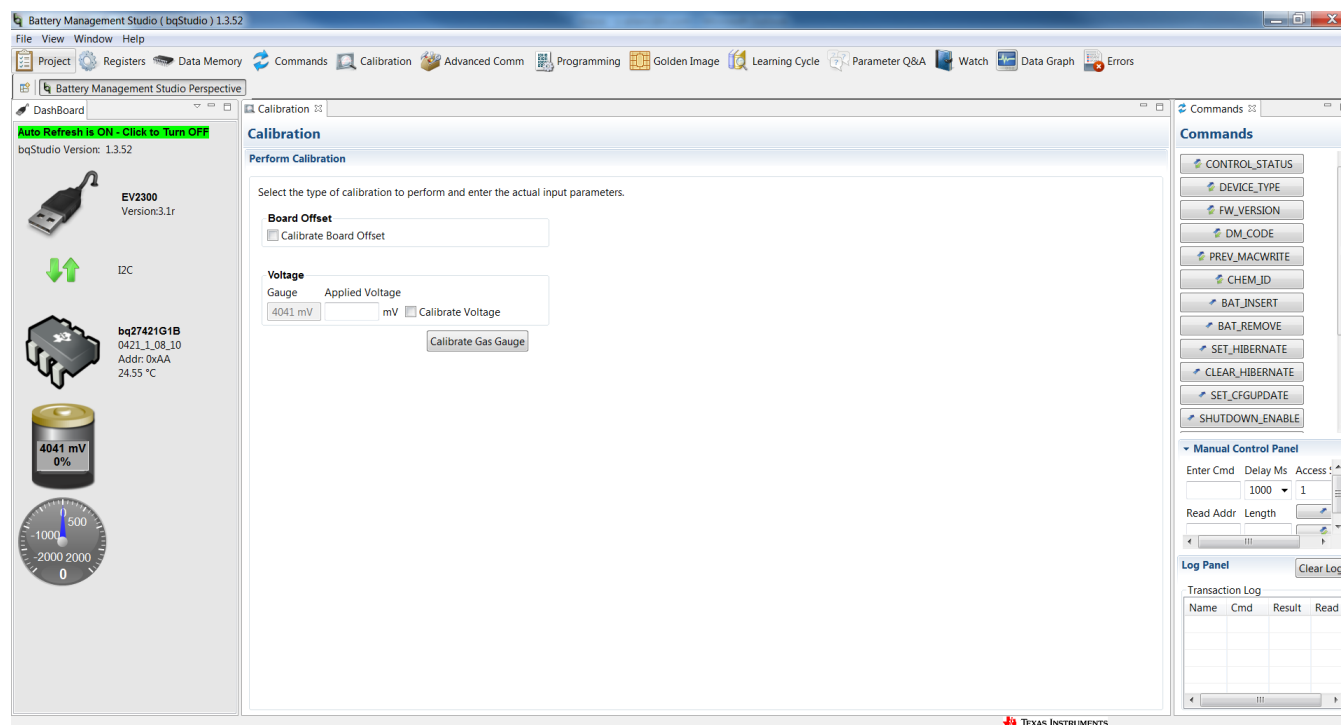

Figure 11. Calibration Screen
The bq27421EVM must be calibrated to ensure accurate value reporting. This is done using the *Calibration* window in bqStudio (Figure 11).
1. Select the types of calibration to be performed (see Figure 11).